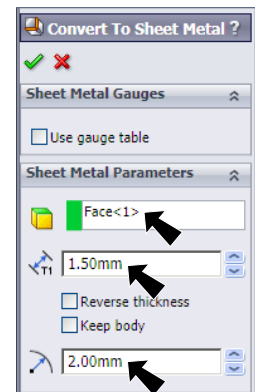

Fig. 10
- under Sheet Metal Parameters, **Fig. 10**
Sheet Thickness  T1 1.5, **Fig. 10**